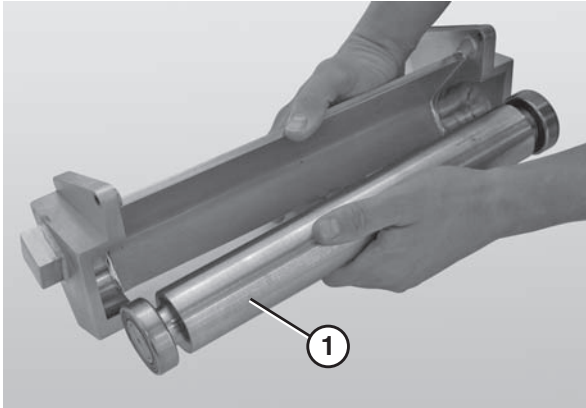

Figure 79
6. Remove the nose bar return spindle (Figure 79, item 1).